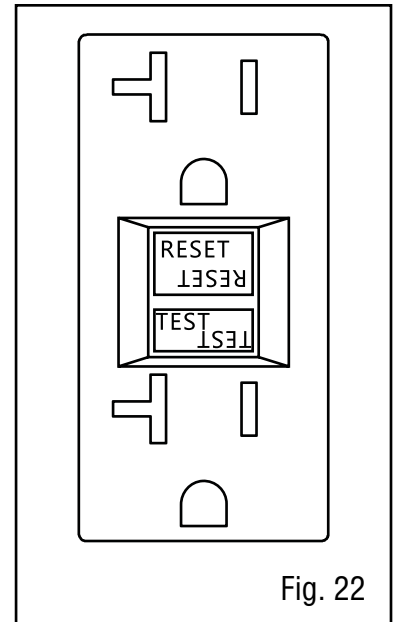

Fig. 22
5. Measure the plug gap with a spark plug gap gauge. The gap should be 0.7 to 0.8 mm (0.028-0.031 in.) (Fig. 22). Carefully adjust the gap if necessary.
Test the GFCI outlets monthly. The GFCI outlets have two buttons between the outlets (refer to Fig. 22):
2. Press the RESET button on the GFCI outlet (Fig. 22).